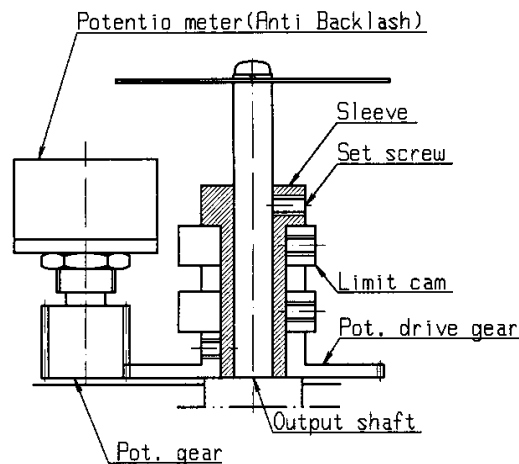

FIG. 19
1. Position the Valve position indicator at 50 % manually, and the shaft will come to the position as shown in FIG.19. (See that the shaft is parallel with the actuator bottom)